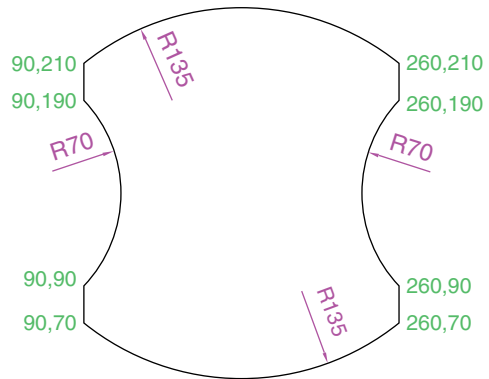

Fig. 3.33 Exercise 2
2. With the **Line** and **Arc** tools, construct the outline in Fig. 3.33.